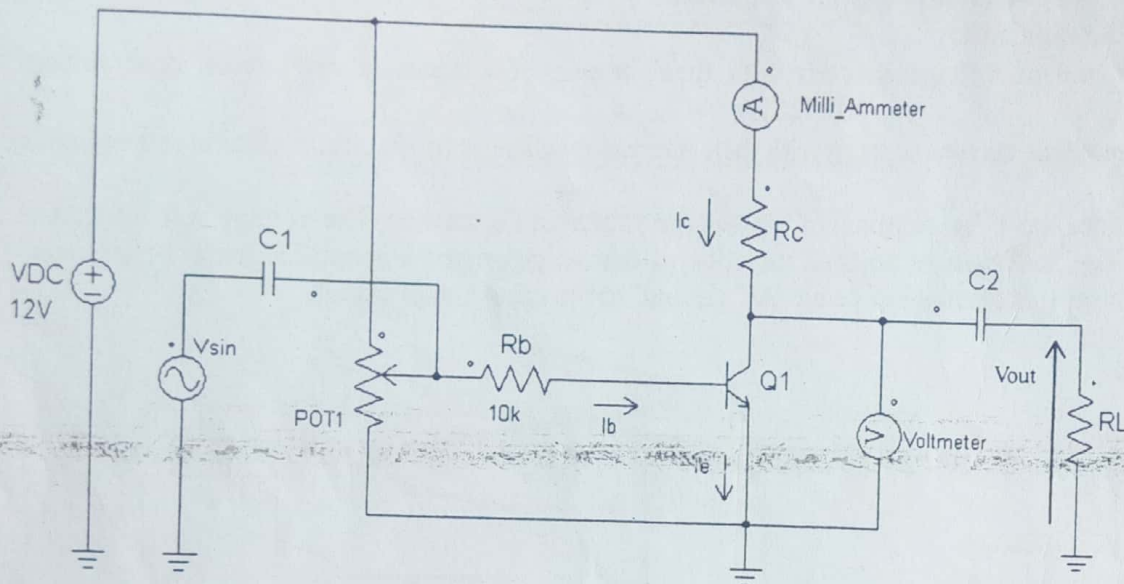

Figure 5. Circuit Diagram
1. Select your operating point as $V_{CE} = 6\text{ V}$ and $I_C = 5\text{ mA}$ for the circuit shown in Figure 5. Then calculate the value of R_C (Select a suitable resistor value for R_C from E12 series).
3. Draw the AC equivalent circuit for the amplifier circuit with the load connected as shown in Figure 5. (no need to draw the small signal model of the transistor)
1. Connect the circuit as shown in Figure 5 **omitting the load resistance R_L** . (Do not switch on the power supply until an instructor checks the circuit.)